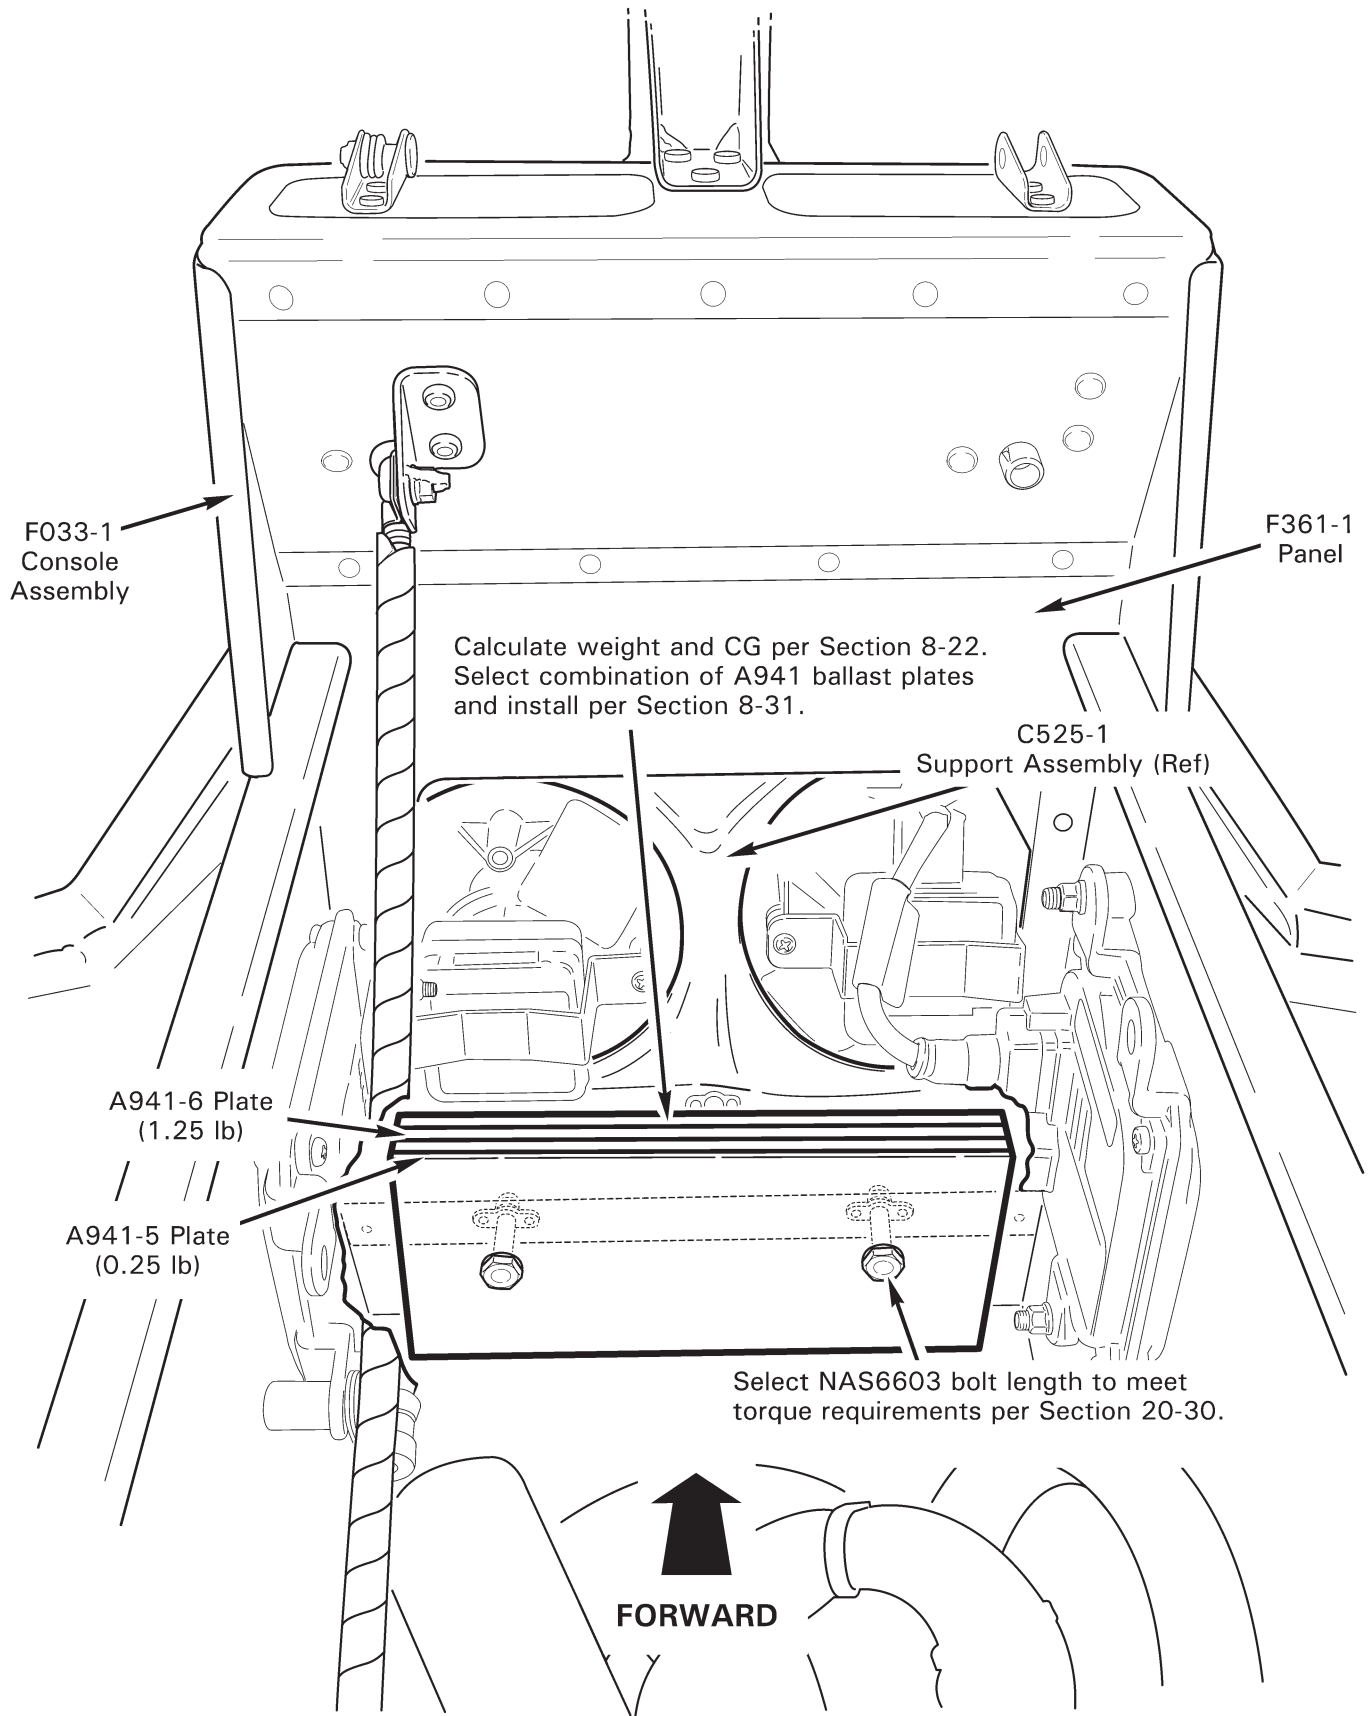

FIGURE 8-4 NOSE BALLAST
1. Refer to Figure 8-4. Remove screws securing B050-22 or -23 upper console assembly to F033-1 lower console assembly and hinge upper console assembly aft. Protect instrument face with foam support or equivalent.